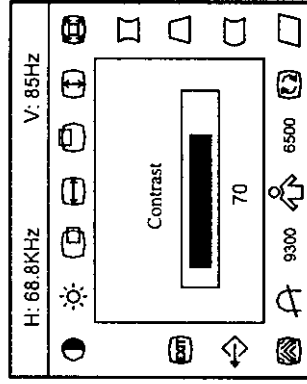

Figure 4 The OSD Message
1. Press the Shuttle Knob or OSD Key to make the OSD window appear. See Figure 4.
2. Rotate the Shuttle Knob to select the desired function. See Figure 4.